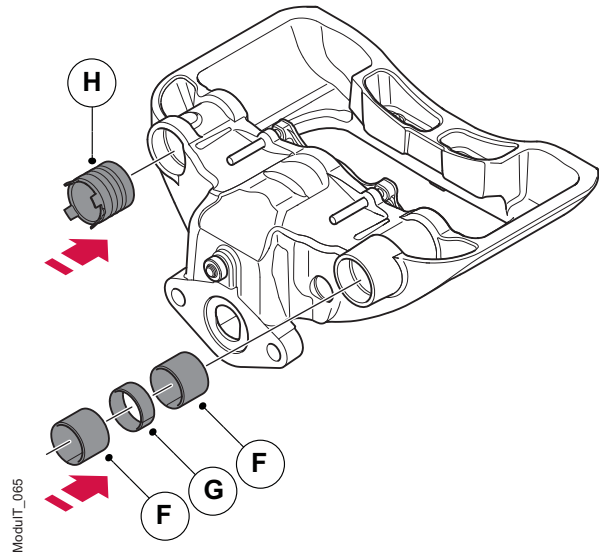

Figure 58. Install the leading slide bearings and trailing side bushing
1. Carefully follow steps 8 and 9 below to install the two leading bearings (F) and the spacer (G) and trailing composite bushing (H), see figure 58.